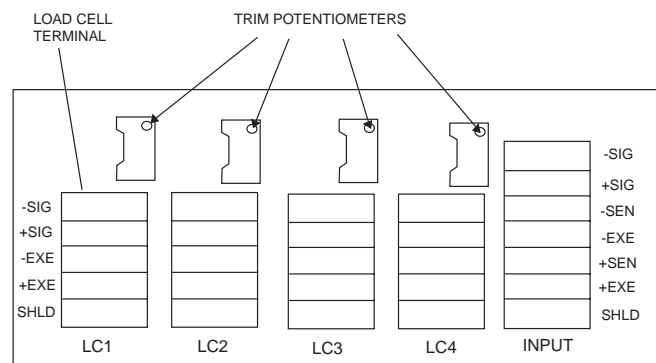

Figure 3. Junction Box PCB Layout.
3. If the readings are not within tolerances, a shift adjustment is required. Proceed by placing the test weight at the location immediately clockwise from the location at which the lowest reading was recorded. Then adjust the trimming potentiometer (Figure 3) for the load cell that corresponds to the corner of the scale where the test weight is positioned. Remove the junction box access cover and make the adjustment by turning the potentiometer until the weight reading matches the lowest reading.